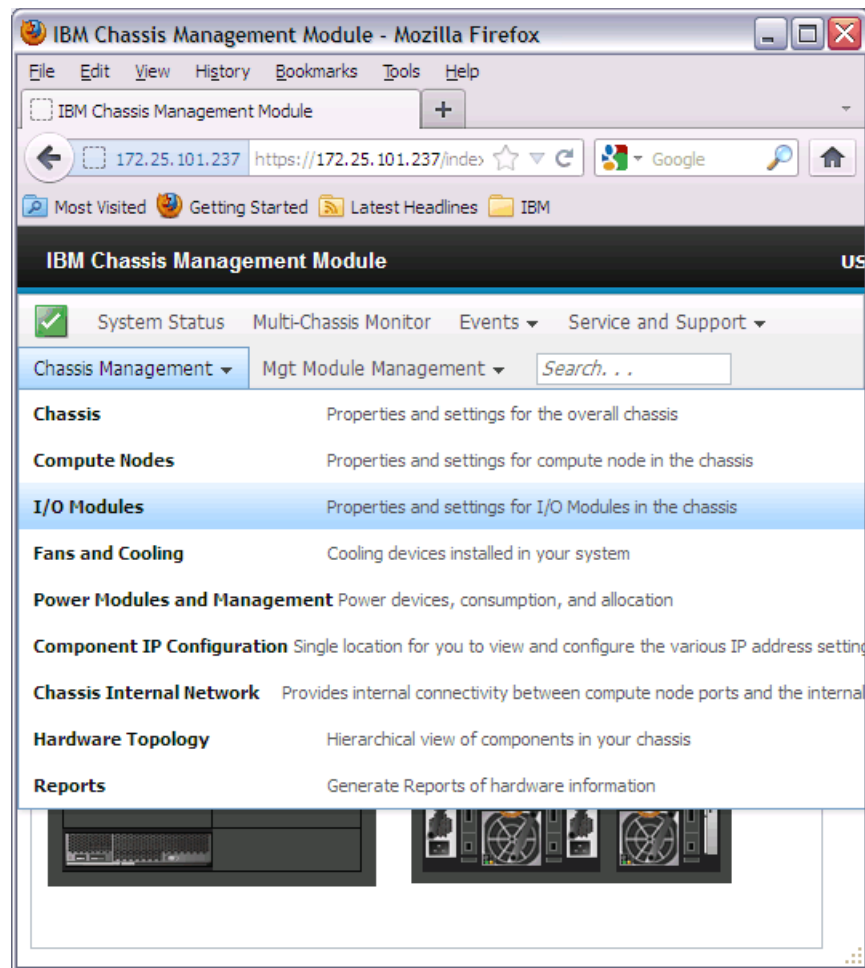

Figure 6-10 Select I/O Modules management
3. Select **Chassis Management** → **I/O Modules**, as shown in Figure 6-10.